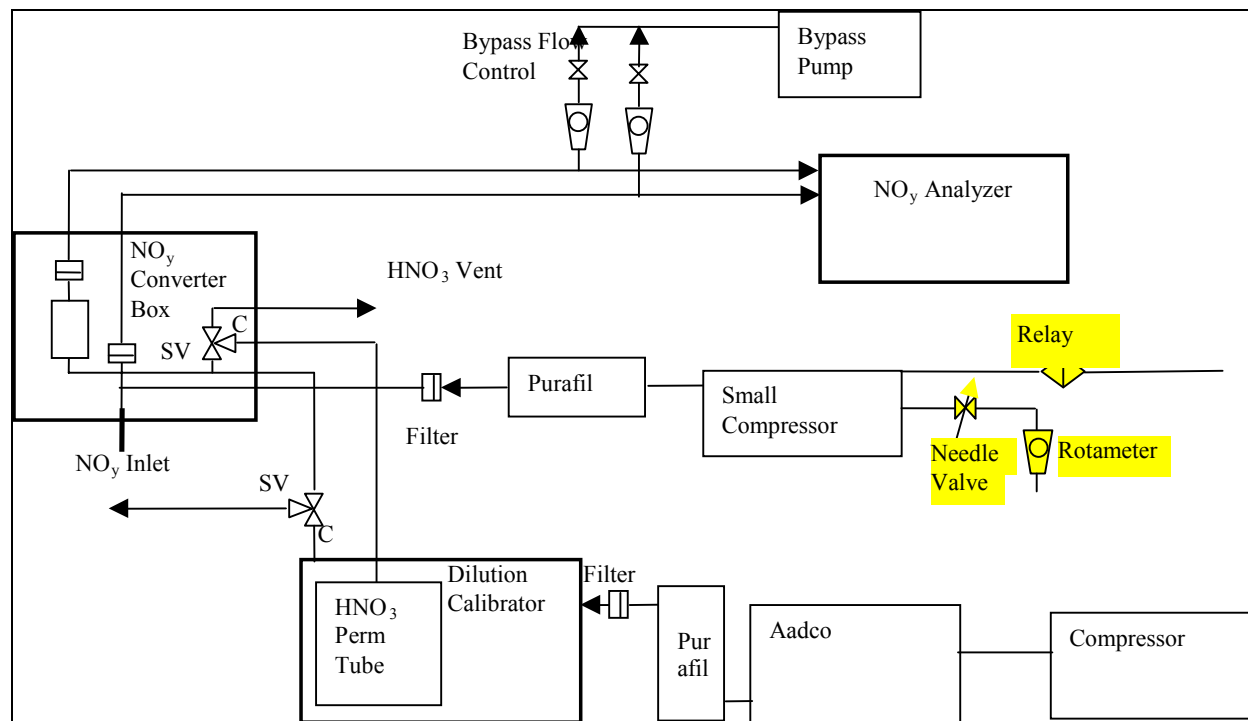

Figure 2. Calibration system.
The calibration system should be plumbed as shown in **Figure 2**. The inlet to the small compressor must be drawn from outside the station away from calibration gas vents. This air passed through Purafil only in order to remove NO_y but to leave the ambient air changed as little as possible otherwise. If the compressor flow must be throttled, the needle valve should be placed on the inlet side of the pump to prevent compression and possible water condensation on the output side. This system shown in Figure 2 provides the following options for calibrations and QC checks:
1. Plumb the automated calibration system as shown in **Figure 2**. Supply at least 5 LPM of calibration gas or zero air to the sample inlet.